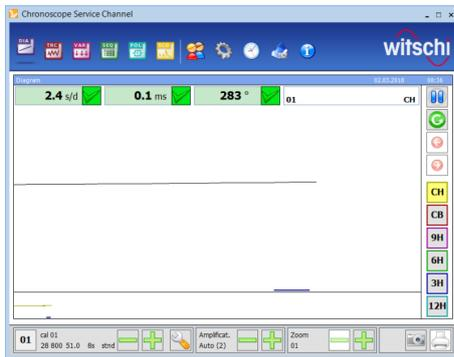

Fig. 16: The measuring process starts automatically
- The measuring process starts automatically (Fig. 16).